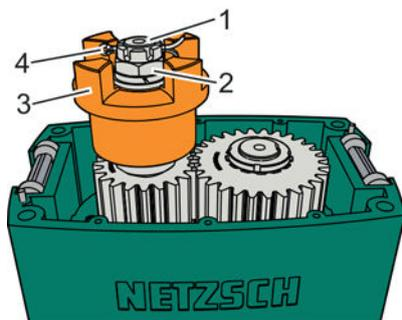

Fig. 93: Pulling the safety splint of the hexagon castle nut
4. ➔ Bend the ends of the safety splint (Fig. 93/4) together, pull out of the hexagon castle nut (Fig. 93/2) of the drive shaft (Fig. 93/1) and place to the side.